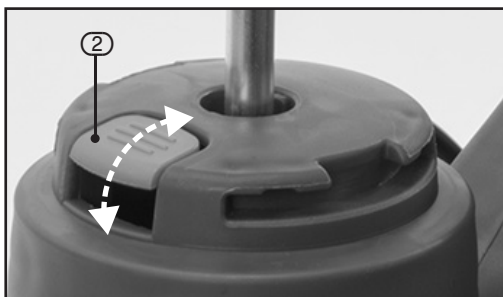

FIG. 10
9.3 SAFETY PRESSURE VALVE – FIG. 10
– FIG. 10